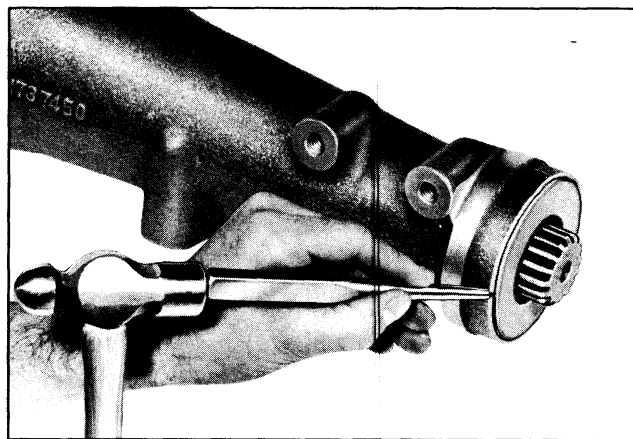

Fig. 7-11 Removing Extension Oil Seal
4. Using punch or other suitable tool (Fig. 7-11), loosen seal from extension and remove.